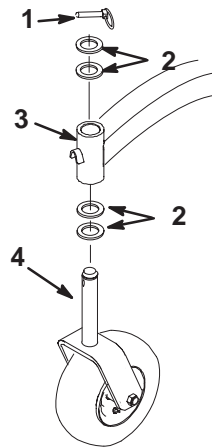

Figure 80
2. Remove the locking pin and spacer(s) from the top of the caster wheel fork (Fig. 80).
6. Inspect the caster wheel fork for wear and replace if necessary (Fig. 80).
7. Slide the caster wheel fork through the bushings in the mounting tube. Replace the spacer(s) onto the fork and secure with the retaining ring (Fig. 80).